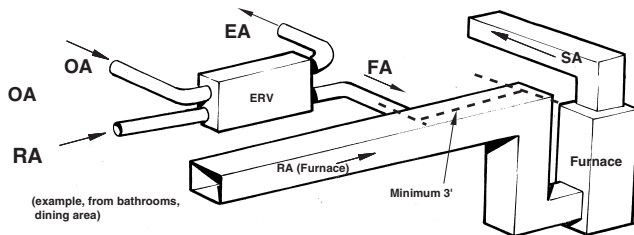

Figure 7
The Fresh Air Supply duct from the ERV should be connected a minimum of three (3) feet up stream of the indoor unit return plenum. (See Figure 7)